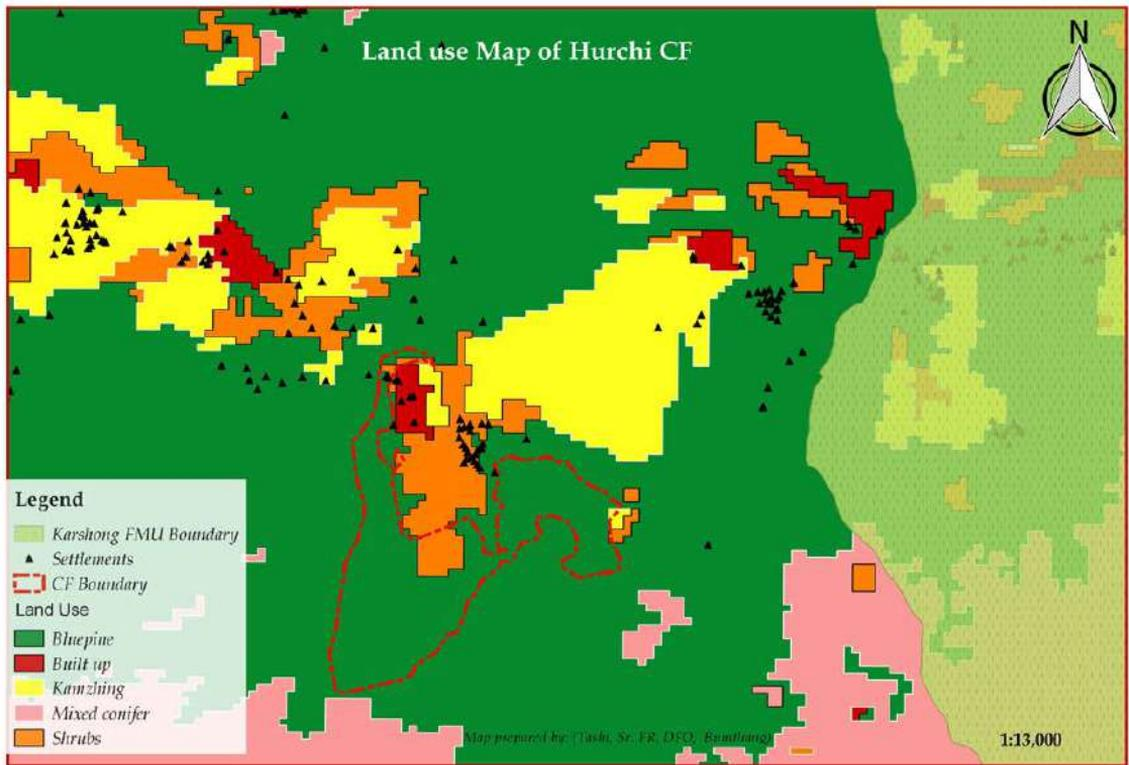

Figure 4i
- j. Add land use data and finalize the map, see figure 4i below (Google map superimposed with required attributes and Land use map which can be incorporated in the management plan).